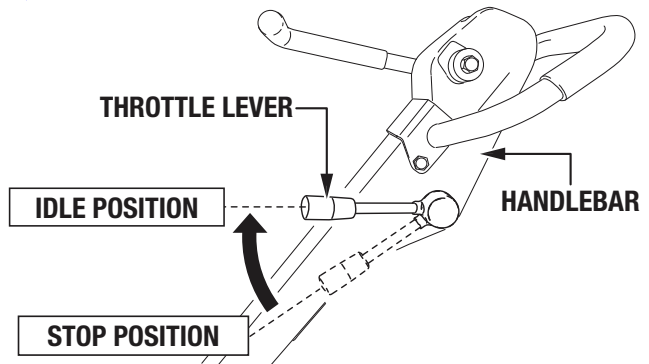

Figure 42. Throttle Lever (IDLE)
- Move the throttle lever to the **IDLE** position (Figure 42).